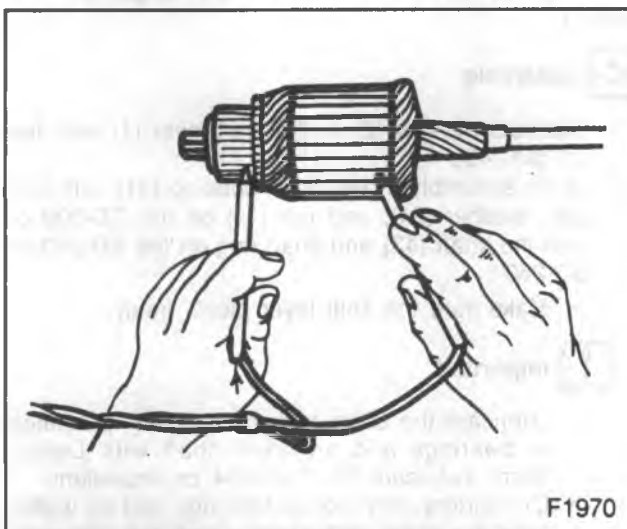

Figure 14—Testing the Armature for Grounds
7. Armature for grounds by using a test lamp (figure 14).